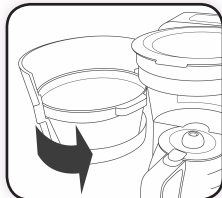

Figure 28
- 2 Place an empty Mr. Coffee® 10-12 cup basket-style paper filter or Mr. Coffee™ Reusable Filter into the Removable Filter Basket and close the Front Loading Brew Basket door. (Figure 28)